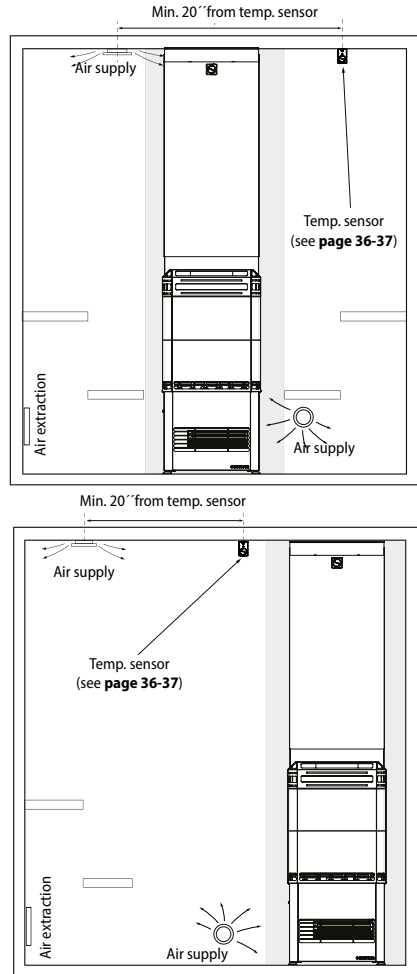

Figure 1
It is also necessary to prepare the air intake and exhaust air of the steam room in advance as shown on **Figure 1 & 2** (pages 21 and 22) and preparation for directing the cables of the device to the adjacent dry room.
* Recommended location of the air intake hole. Exact location may vary. See Figure 1 & 2.